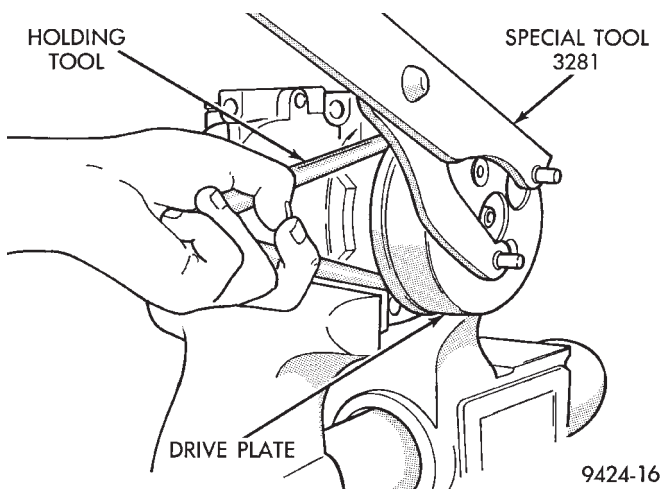

Fig. 11 Drive Plate Remove
(1) Remove the compressor and clutch from the vehicle as described in this group.
(2) Mount the compressor in a vise and remove the bolts that secure the drive spool to the drive plate.
(3) Remove the compressor drive plate with a spanner wrench (Special Tool 3281). Turn the drive plate counterclockwise to remove (Fig. 11).